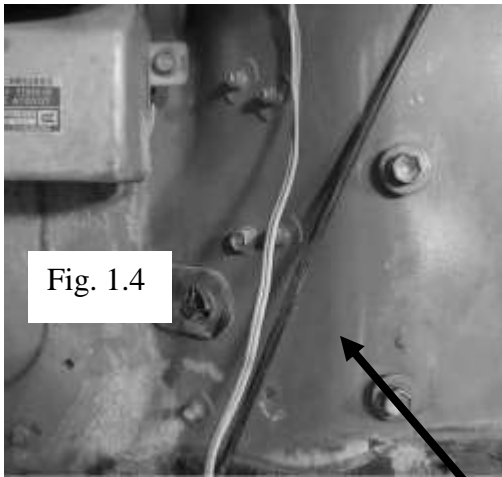

Fig. 1.4
- 5) Remove original grommet from heater tube hole in firewall. Attach new block off plate on the inside of the firewall, with enclosed four self-tapping screws. See figure 1.4 and 1.5
- 6) Mount the evaporator unit to the firewall. Use three of the original bolts that and one 8mm nut with washer and lock washer. (The two bolts in fig. 1.4 are for mounting the evaporator unit. Above and below the box that says “Fig. 1.4”). See figure 1.6 for passenger side hole locations.